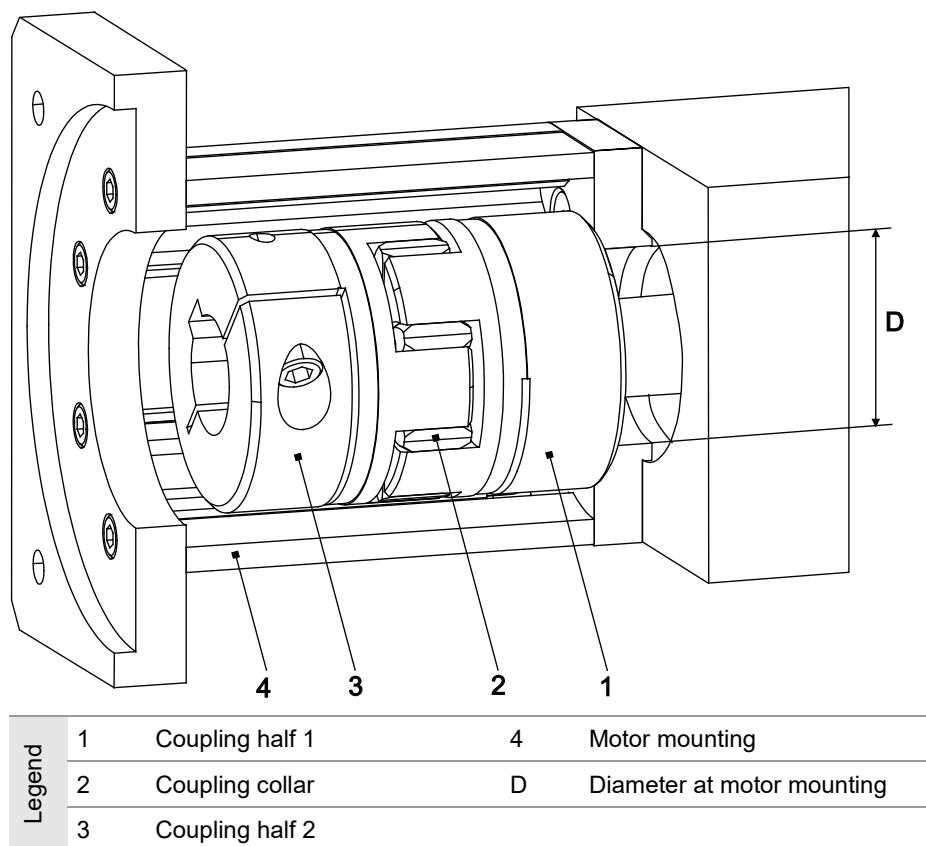

Figure 7: Motor mounting with motor coupling at drive journal
3. If the coupling diameter is smaller than the D measurement at the motor mounting (4), first mount the coupling half 1 (1) (bore flush with the drive shaft) and then the motor mounting (4) (Figure 7).